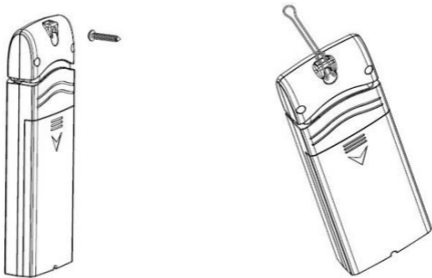

Figure 5: Indoor sensor mounting
- Use a screw or nail to affix the remote sensor to the wall, as shown on the left side of figure 5, or
- Hang the remote sensor using a string, as shown in right side of figure 5.